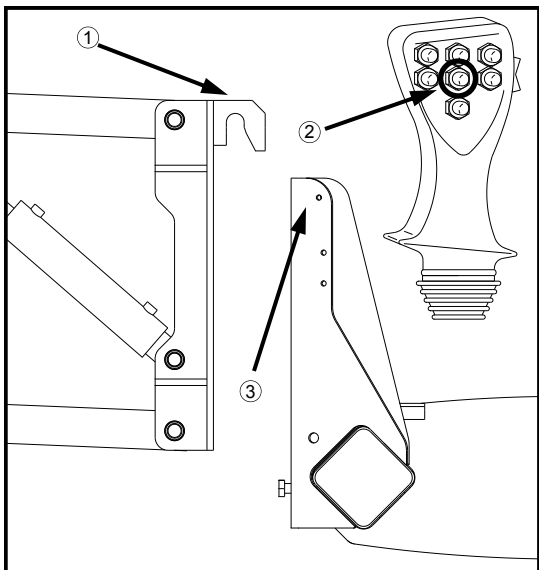

FIG 2.3
After removing all 16 mounting bolts, with the booms resting on all four support stands, depress the lower transom button (fig. 2.3, item 2). This will cause the lift arm plate to raise. Continue pressing the button until the quick-attach "hook" has cleared the "quick-attach" pin (fig. 2.3, item 1 & 3).